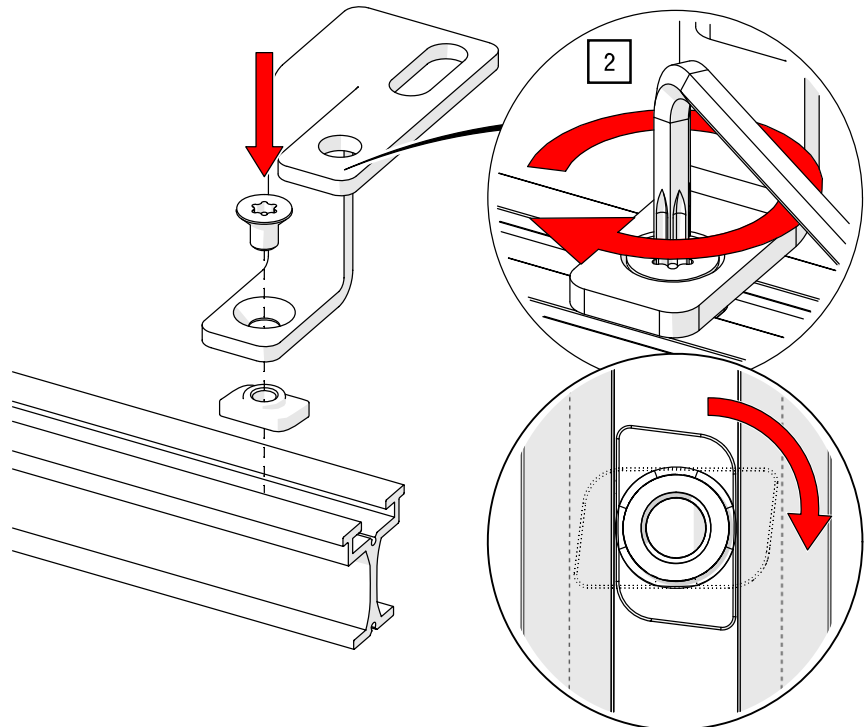

Fig. 70: Assembling the cord operation – Assembly with slot nut
2. Fit the ceiling suspension bracket for cord operation to the track using the slot nut and TORX®-key T40 and 27 Nm (see Fig. 70).